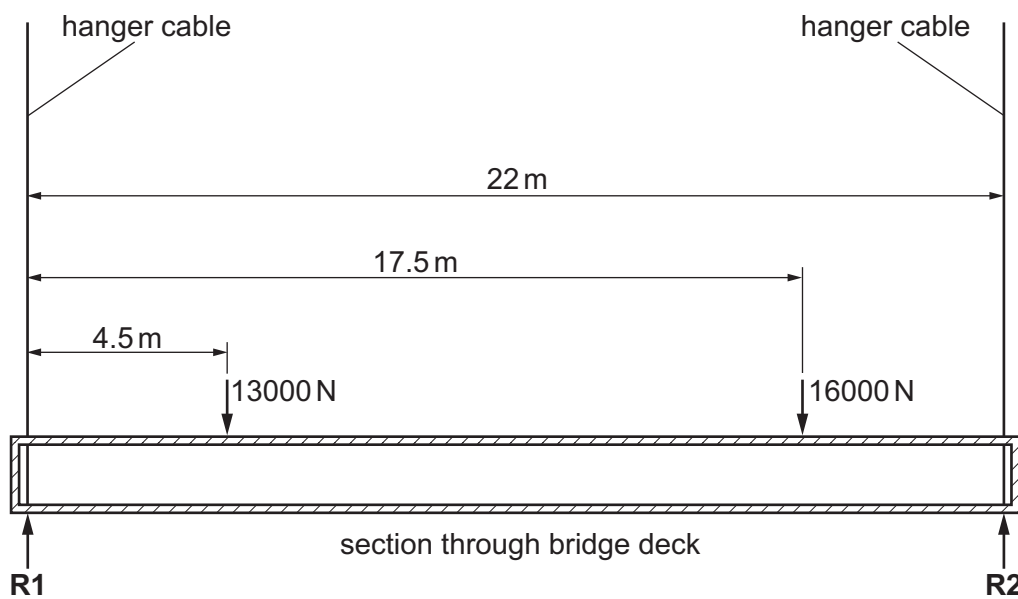

Fig. 10.3
- (iv) Fig. 10.3 shows a section through the bridge deck with the positions of two loads shown.